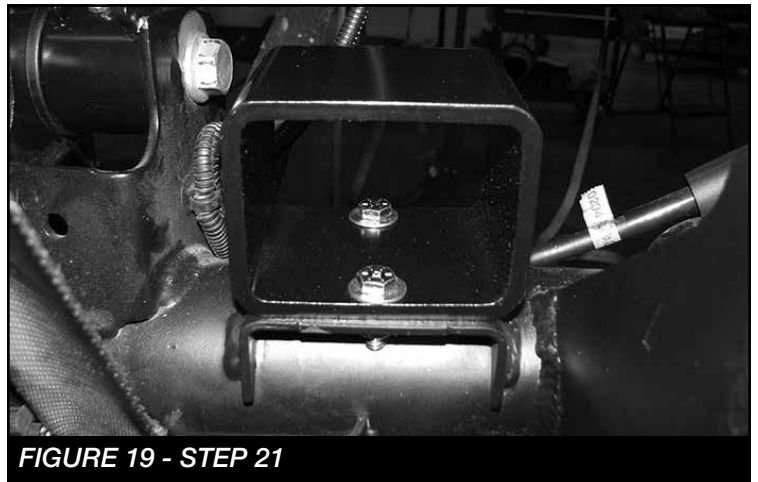

FIGURE 19 - STEP 21
21. Locate FT50401BK Rear Bumpstop Spacer. Position the spacer onto the factory bumpstop pad on the axle and attach with the supplied 5/16" x 1" bolts and hardware. **SEE FIGURE 19**